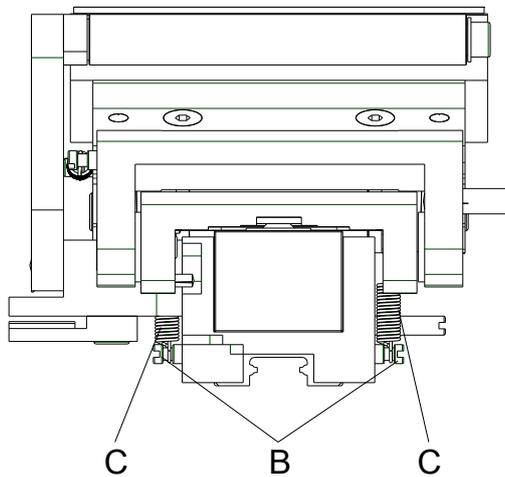

Figure 19
2. Push both tension springs (C, Figure 19) with tweezers from the pillars (B, Figure 19).